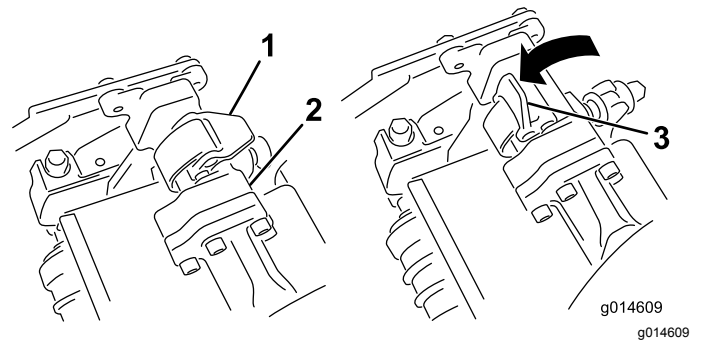

Figure 45
4. Close the latches down and around the cutting-unit bar and lock them in place (Figure 45).
4. Open the latches on the suspension-arm bar of the cutting unit you are removing (Figure 45).